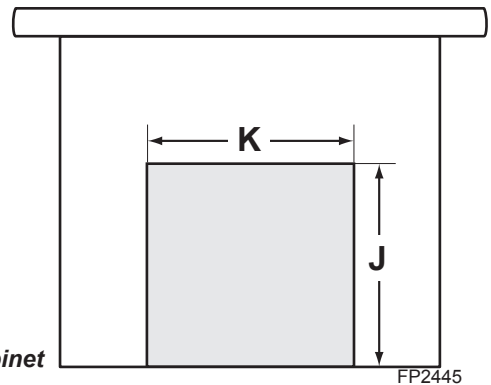

Figure 7 - Custom Cabinet
**Optional bottom radiant panel kits cannot be covered. Optional top radiant panels can be covered as shown in Figure 7**